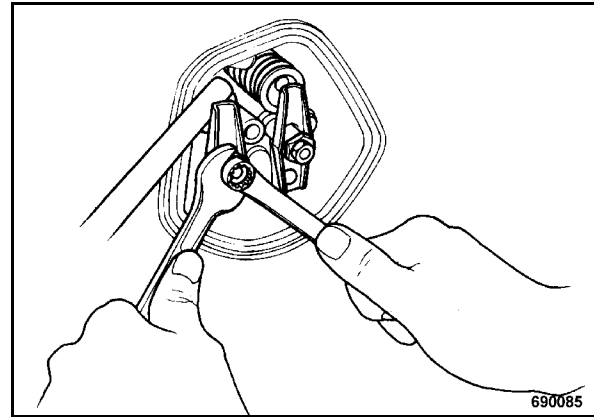

Fig. 49
- Check the valve clearance with a feeler gauge on both valves (1) (Fig. 49).